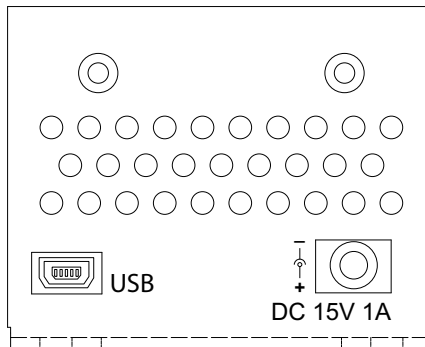

Fig. 3.3 Front Panel Power Supply Connector
- 4) Connect the unit to the PC USB bus - see Fig. 3.3